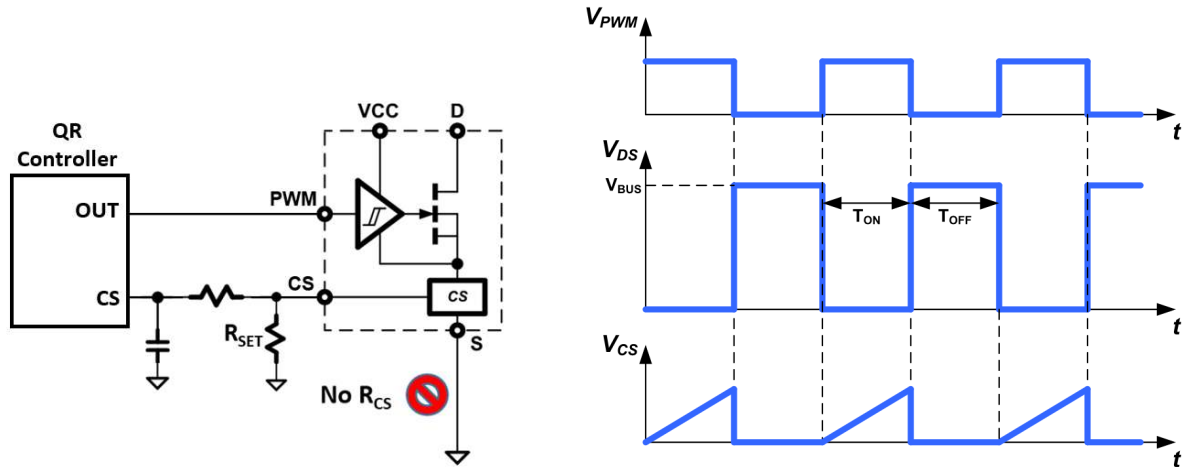

Fig. 26. Current sensing circuit and timing diagram
For many applications it is necessary to sense the cycle-by-cycle current flowing through the power FET. Existing current sensing solutions include placing a current sensing resistor in between the source of the power FET and P_{GND}. This resistor method increases system conduction power losses, creates a hotspot on the PCB, and lowers overall system efficiency. To eliminate this external resistor and hotspot, and increase system efficiency, this IC includes GaNSense™ Technology for integrated and accurate loss-less current sensing. The current flowing through the internal GaN power FET is sensed internally and then converted to a current at the current sensing output pin (CS). An external resistor (R_{SET}) is connected from the CS pin to the Source pin and is used to set the amplitude of the CS pin voltage signal (Fig. 26). This allows for the CS pin signal to be programmed to work with different controllers with different current sensing input thresholds.